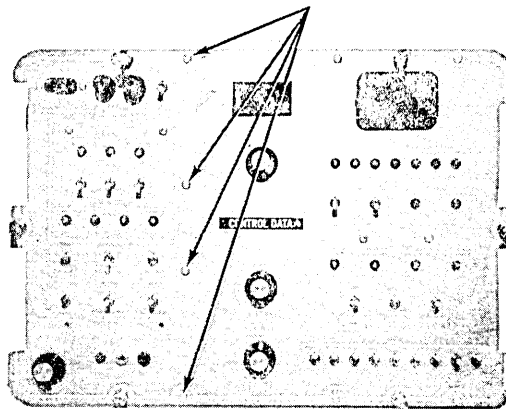

Figure 6-3. Baffle Plate Mounting Screws
3. Remove the four baffle plate mounting screws (see Figure 6-3).